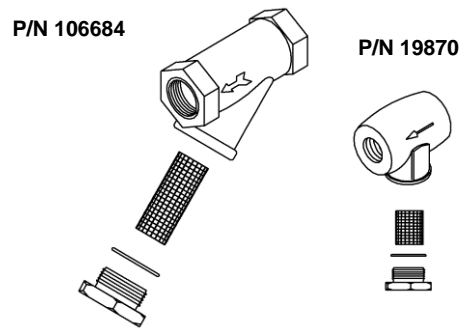

Figure 2-15 Water Strainer Assembly
- f) Two 40 or 50-mesh water strainer (dirt filter) of one of the types and construction illustrated in Figure 2-15, Cleveland Range part number 106684 or 19870 has already been installed as part of the internal water piping.